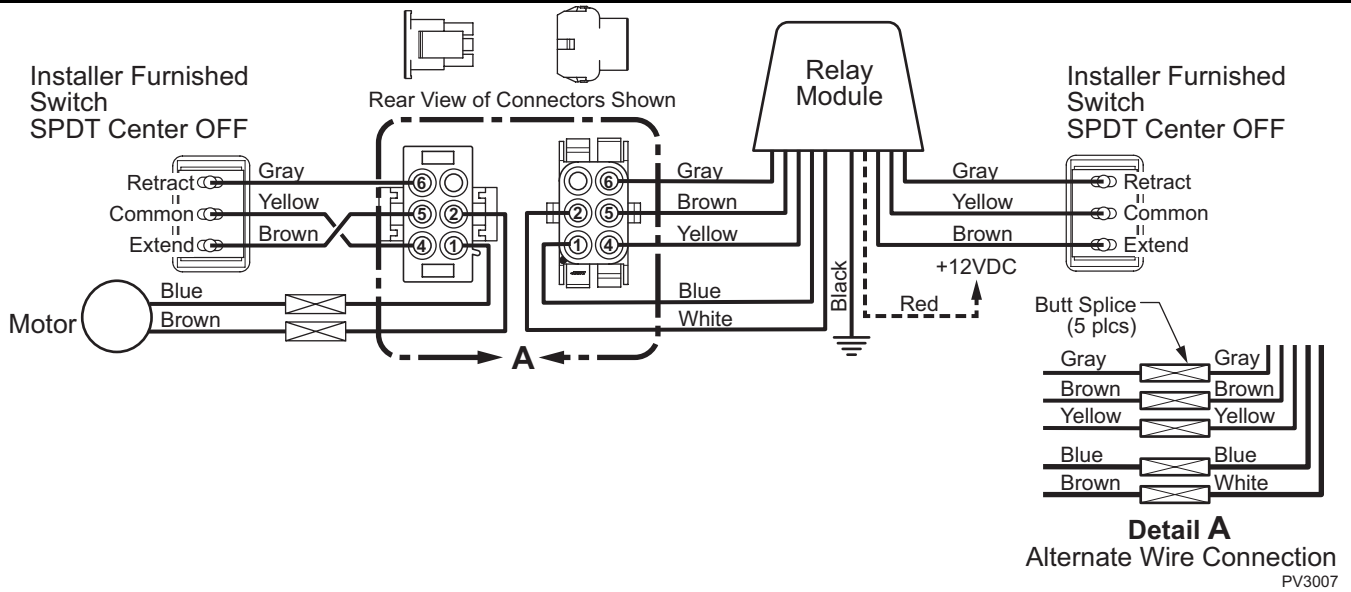

Figure 10. Relay Module Wiring Diagram.
**NOTE: The relay module harness is supplied with one connector installed. The installer must furnish the mating connector (p/n 1-480704) and terminals (p/n 350547-3) for the exterior switch and motor cables. Vendor: AMP/Tyco Electronics. Alternately, the installer may cut off the connector and butt-splice the wires as shown in Detail A of Figure 10.**